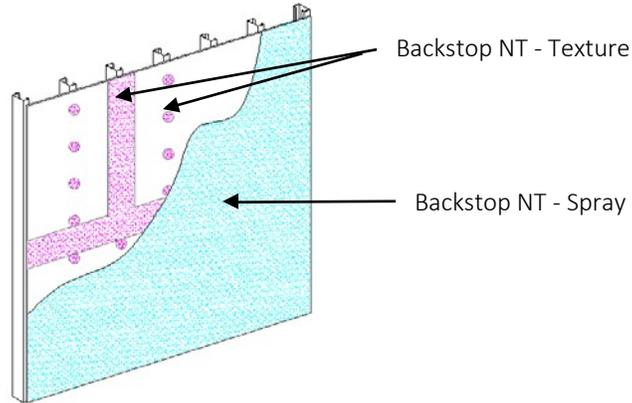

Fig. 20
- 1) Backstop NT - Spray material should be applied in a uniform, continuous film at the recommended coverage rate free of voids and pinholes – Figure 20.
- 18. Corners of all openings such as windows, doors, mechanical equipment and all penetrations shall be reinforced with Detail Mesh placed diagonally to the opening as illustrated in Figure 20 previously.